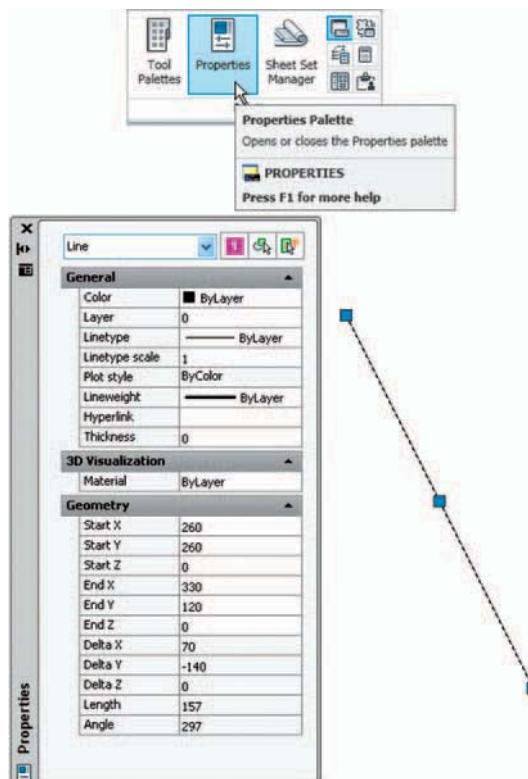

Fig. 1.12 The Properties palette
- Properties palette: Fig. 1.12 shows the Properties palette, called from the View/Palettes panel, in which the general and geometrical features of a selected line are shown. The line can be changed by the *entering* of new figures in parts of the palette.